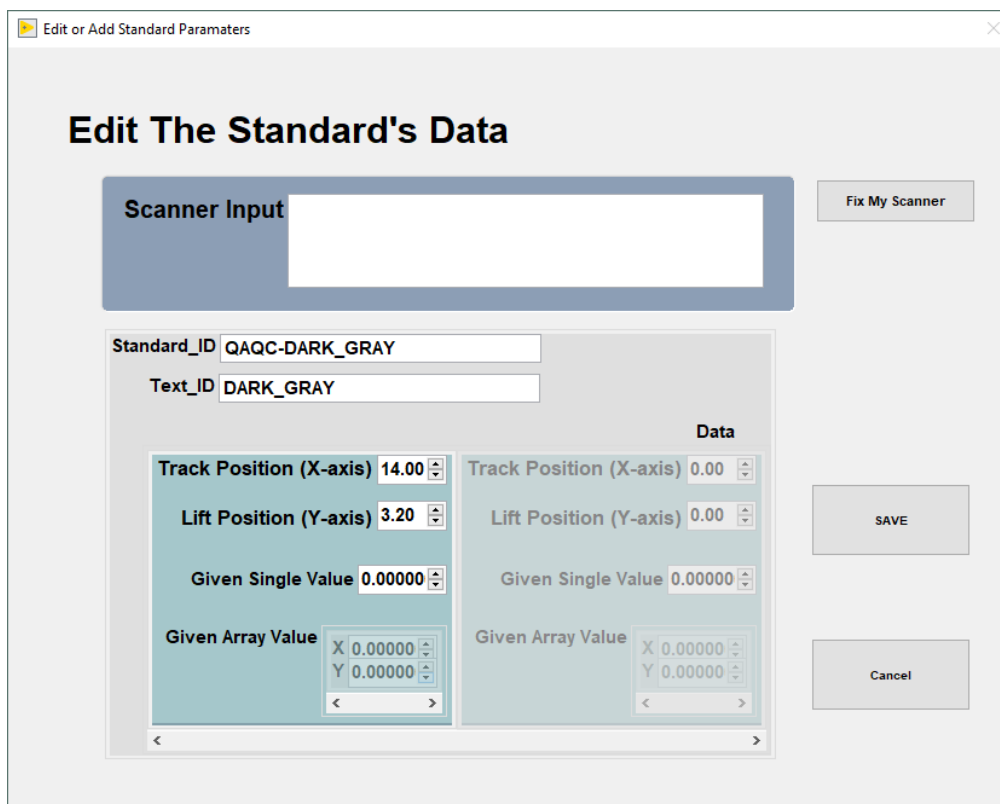

Figure 35. Edit Standard Window
3. Select the **Edit Standard** option to update an existing standard's identification information or position on the track (Figure 35). Select **New Standard** to create a new individual standard.